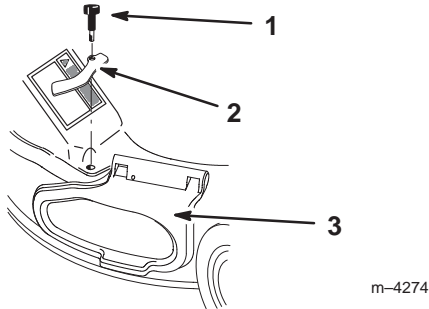

Figure 36
- Secure the front right corner of the discharge tunnel and the side opening cover with the side cover clamp removed previously and the long knob supplied with the grass catcher (Fig. 36)